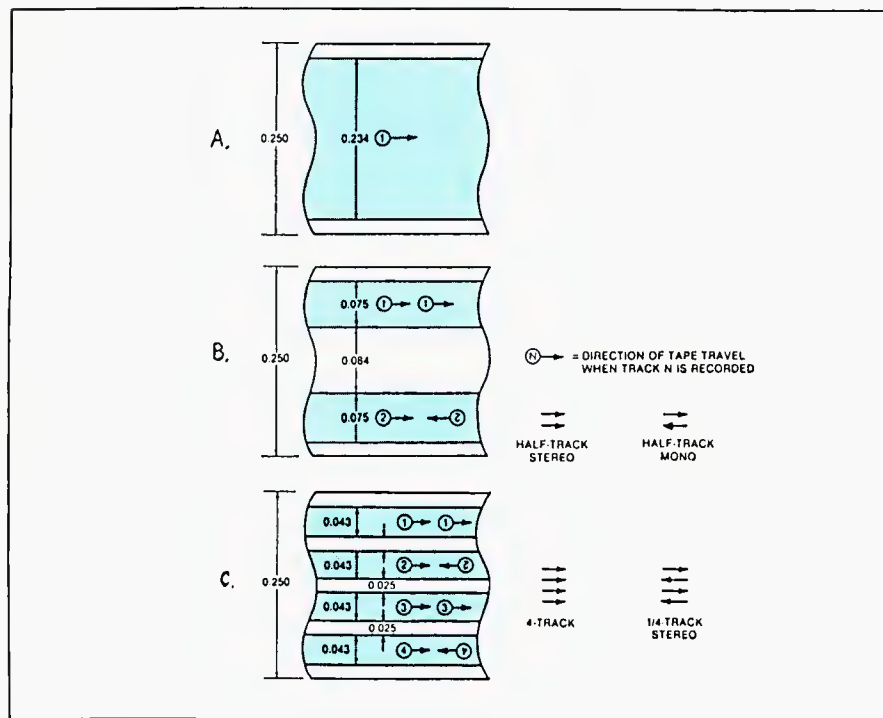

Figure 3. Some track-width standards for quarter-inch tape
can record two or more independent tracks. Heads are available in the track formats described below. *Figure 3* shows some track-width standards for 1/4-inch tape.
*A full-track mono head records over nearly the full width of the tape in one direction. (*Figure 3-A.*)